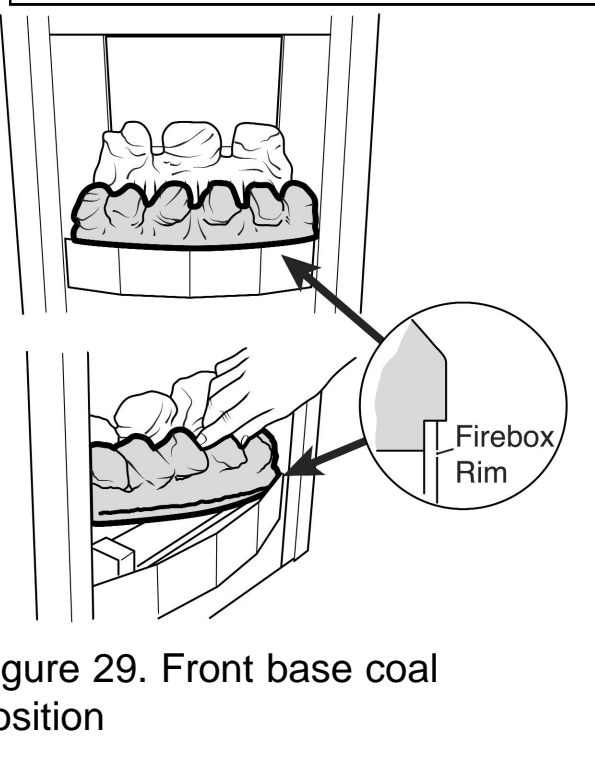

Figure 29. Front base coal position
2. Place the front base coal in the firebox with its bottom front locating over the front rim of the firebox. Pull the coal forward so that it locates immediately behind the front rim of the firebox. (See figure 29). The front base coal will touch the rear base coal as it is located.